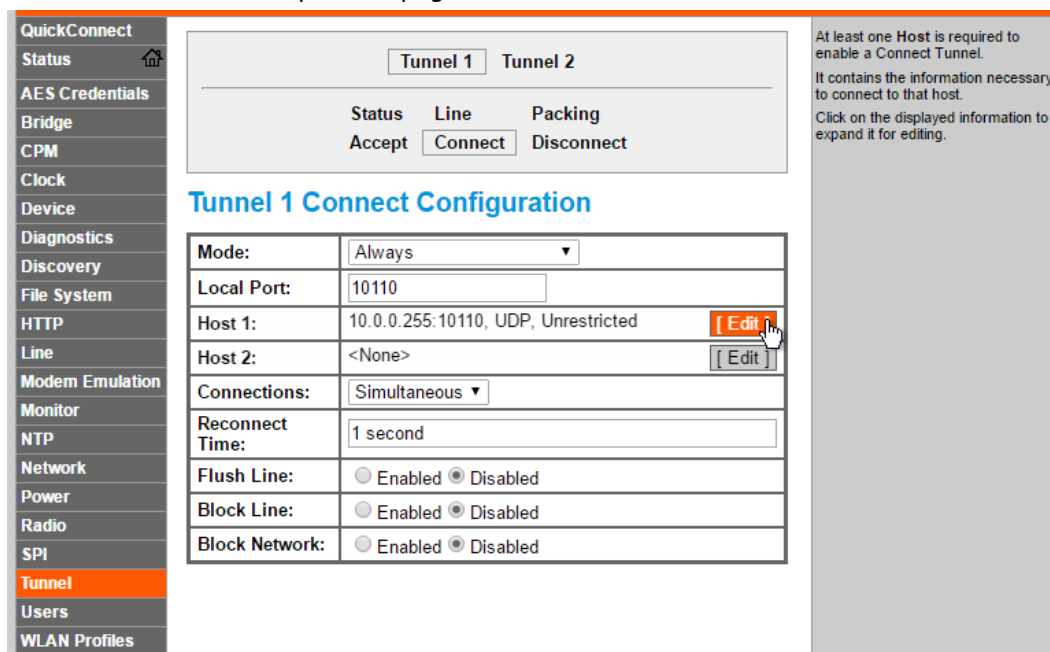

Figure 34
- On the page that appears (Figure 34), click on the **Edit** on the **Host 1** line as shown. Now you can change IP address into the *broadcast address* of your existing access point, which is the tricky bit. If the IP address you wrote down in step 12 needs to be changed depending on the number after the slash character. This number determines how many groups of the IP address must be changed to 255, according to the table below: